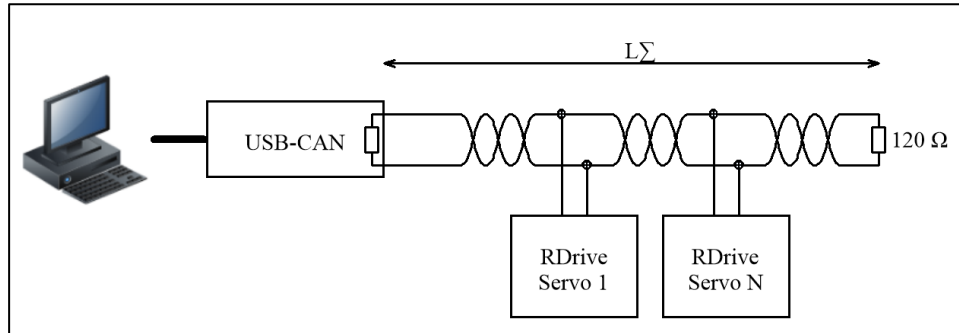
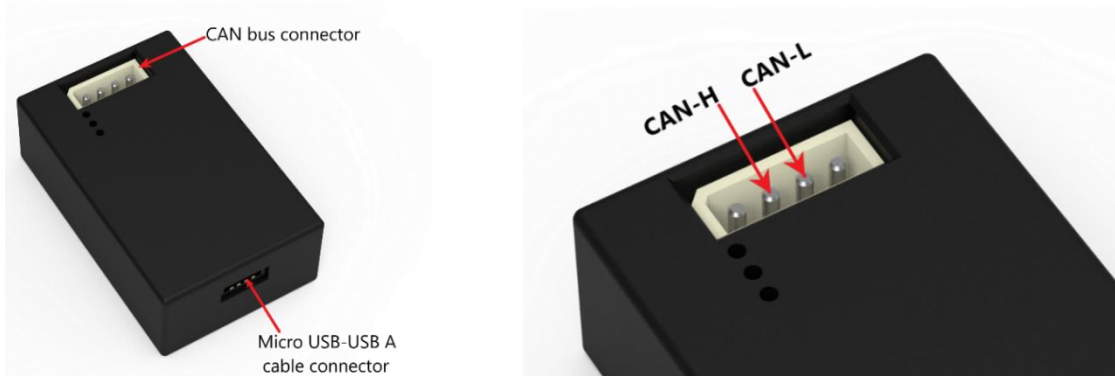

Figure 4-2: CAN-to-PC connection to control servos via API
Figure 4-3: Connectors on the USB-CAN dongle
- In case servo control is via API, provide a CAN-to-PC connection as shown in **Figure 4-2**.
The connection is in accordance with the diagram as shown in **Figure 4-2**, taking into consideration the arrangement of connectors on the USB-CAN dongle (see **Figure 4-3**). To provide the connection, use the cable on the input flange of the servomotor: the brown one corresponds to CAN_{HIGH}, and the blue one — to CAN_{LOW}.